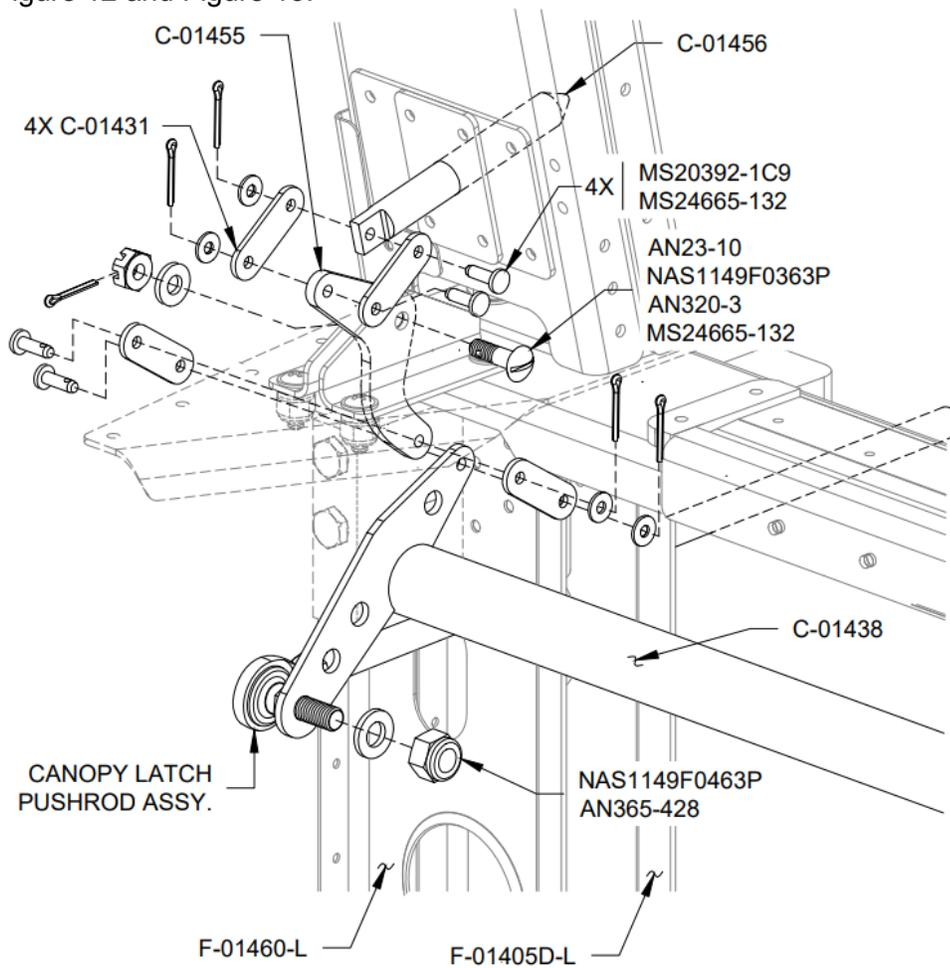
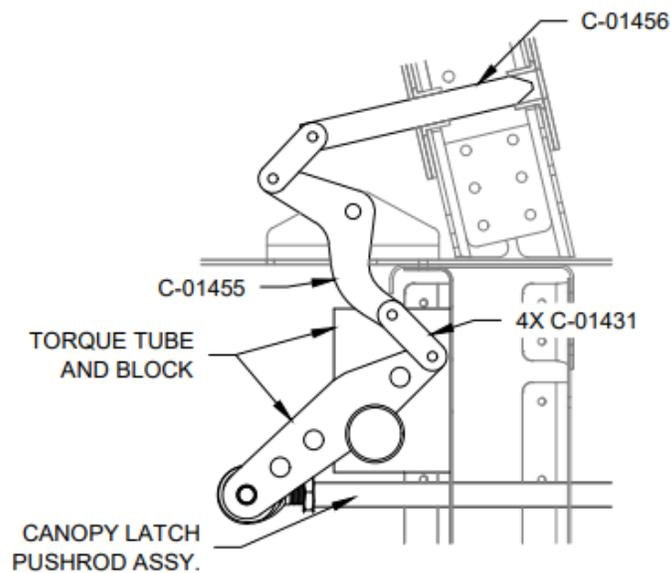

FIGURE 12: BELLCRANK ASSEMBLY
FIGURE 13: SECTION VIEW BELLCRANK ASSEMBLY
Step 12: Reassemble Torque Blocks, Torque Tube, Latch Bellcrank and Canopy Pin as shown in Figure 12 and Figure 13.